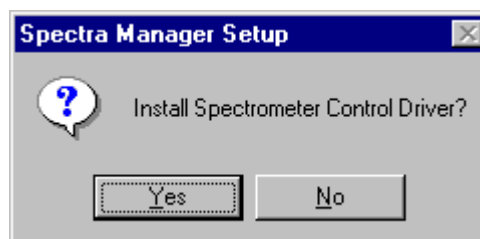

Figure 10.10 Message prompt for installing Spectrophotometer control driver
- (2) Click the <Next> button. The message prompt shown in Fig. 10.10 appears.